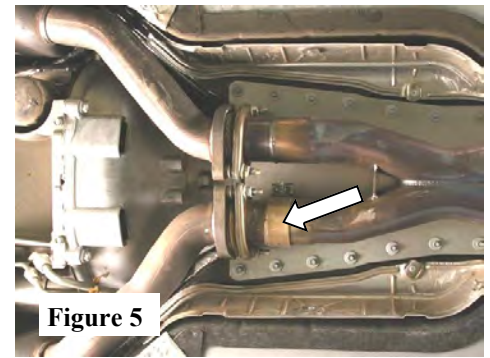

Figure 5
3. Place a clamp over right-side expanded end of X-pipe and insert into Flared Pipe inlet. Connect left-side flange using original hardware. (See Fig.5) DO NOT TIGHTEN HARDWARE.